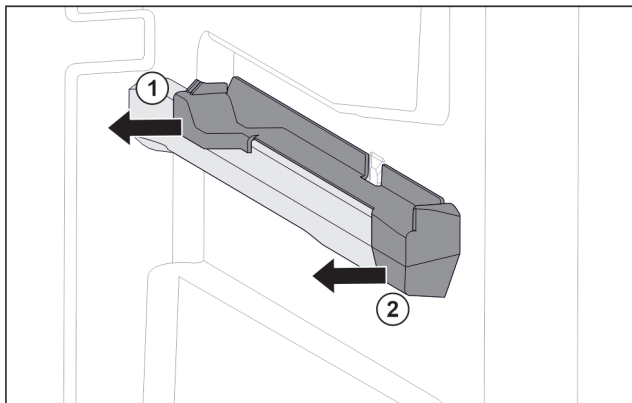

Fig. 86 Attachment on the right moulded rib
- Pull off attachment at the back sideways. Fig. 86 (1)
- Pull off attachment at the front sideways. Fig. 86 (2)